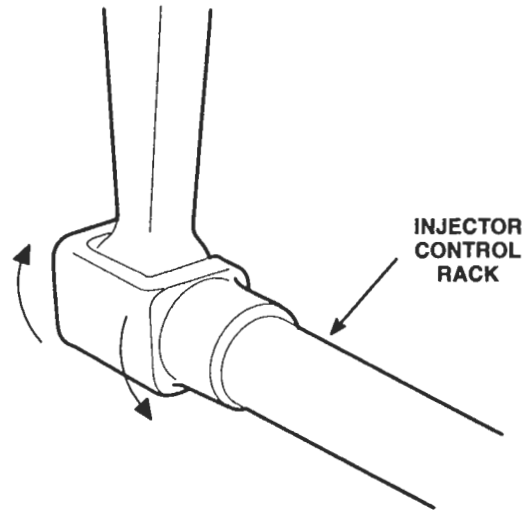

Figure 3. Checking Rotating Movement of Injector Control Rack
6. To be sure the control lever is properly adjusted, hold the speed control lever in the maximum speed position and press down on the injector rack with a screwdriver or finger tip and note "rotating" movement of the injector control rack when the speed control lever is in the maximum speed position (Figure 3.)